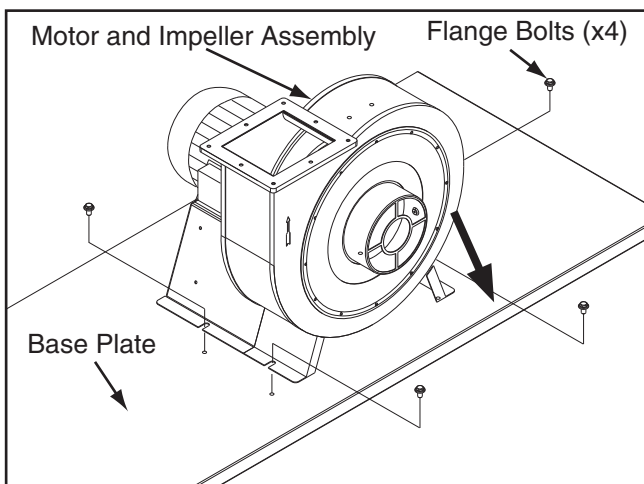

Figure 9. Motor and impeller assembly installed onto the base.
3. Turn the base over, align the motor and impeller assembly with the mounting holes, then secure the assembly with (4) $\frac{5}{16}$ "-18 x $\frac{1}{2}$ " flange bolts, as shown in **Figure 9**.